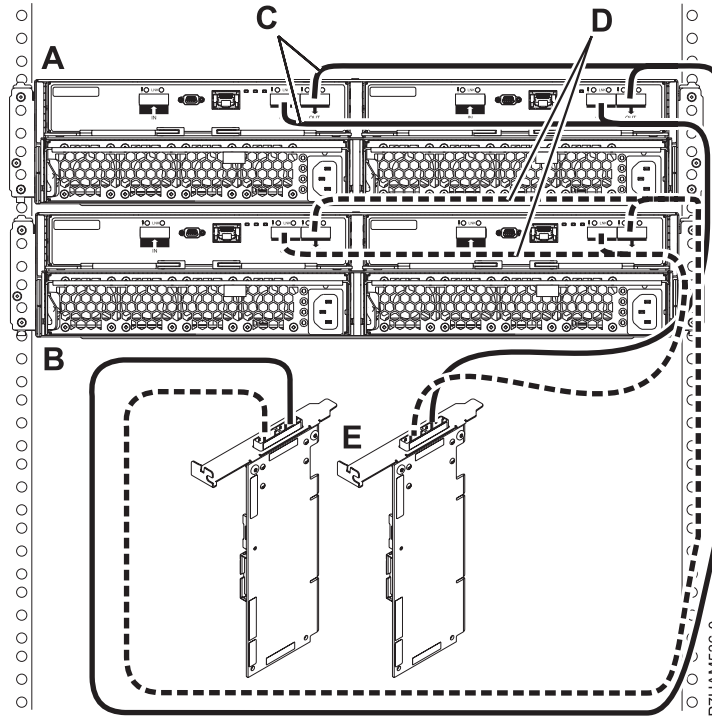

Figure 38. Mode 1 connection of two 5887 disk drive enclosures by using YO cables to a SAS adapter pair
12. Perform the mode 1 connection of two 5887 disk drive enclosures (**A and B**) by using YO cables (**C and D**) to a SAS adapter pair (**E**) as shown in Figure 38 on page 80.